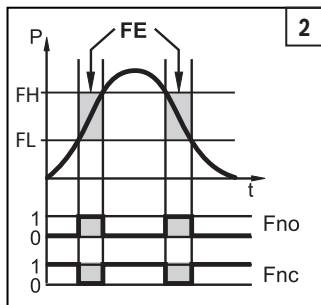

Fig. 2
- Window function / normally open: **[ou1] / [ou2] = [Fno]** (see Fig. 2).
(see Fig. 2).